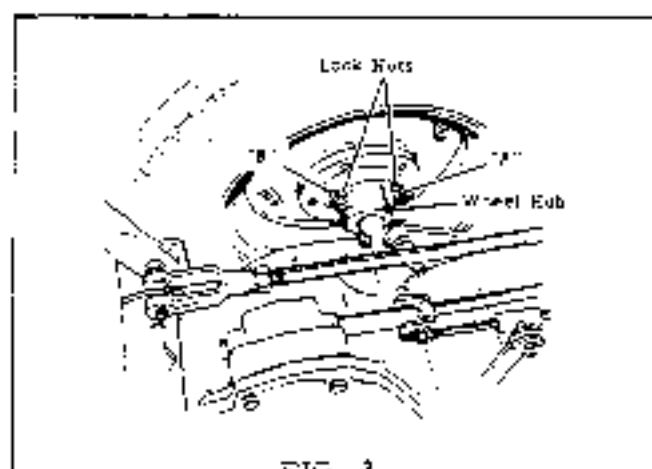

FIG. 2
5. To remove the left rear wheel and hub complete; loosen the locknuts and setscrews "A" and "B" shown in Fig. 2. Setscrew "A" locks against the key located in the axle shaft and setscrew "B" locks into a hole in the axle shaft. It will be necessary to loosen "B" until the screw is free of the hole in the axle shaft. If necessary, tap the edge of the wheel hub with a lead mallet to loosen from the axle shaft.